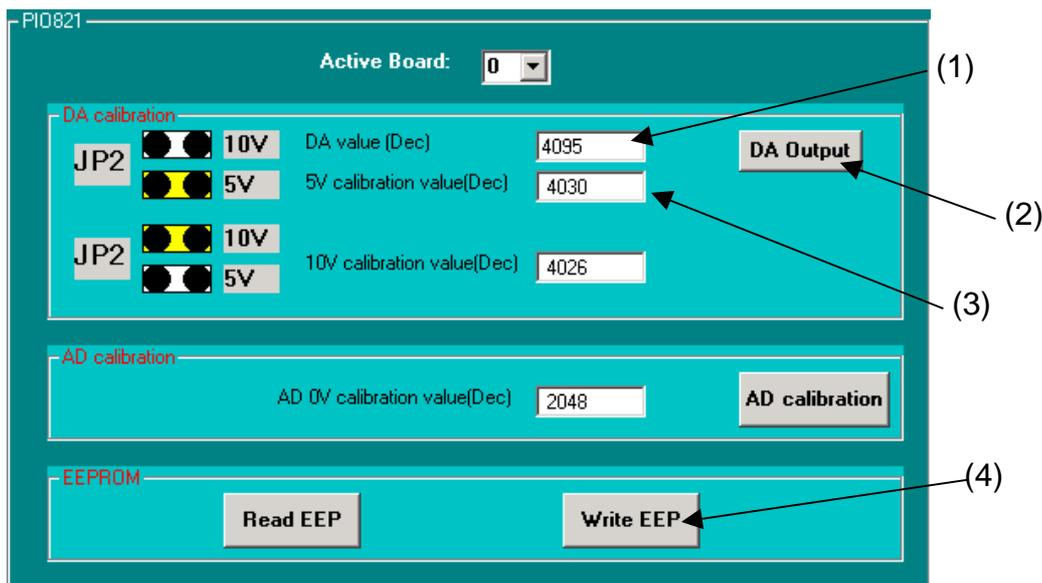

Figure 3.2.
- Step 3. If you want to calibrate the DA, for example, then let the "DA value" be set at 4095, as shown in Figure 3.2 (1).
- Step 4. Click the "DA Output" button and then use particular multi-meter to measure the analog output, as shown in Figure 3.2 (2).
to change the output value (for example: 4093, 4092,...) and change the output voltage until its value is equal to the allowed maximum voltage output value, as shown in Figure 3.2(3).
- Step 6. If the analog output is equal to the maximum allowed analog output level, please key in the calibration value to "5V calibration value" in the textbox and Click the "Write EEP" button. The DA calibration process is finished for the setting range of analog output. It is shown in Figure 3.2 (4).